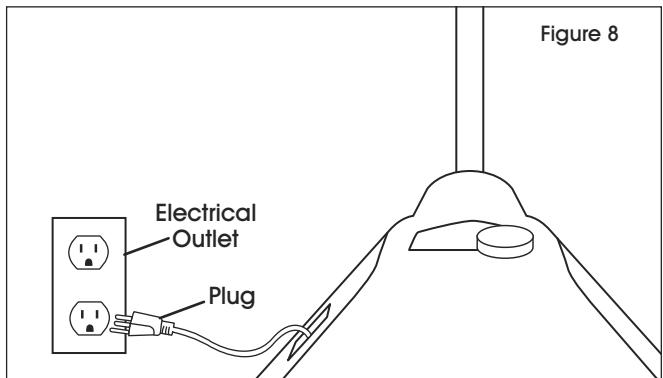

Figure 8
4. Plug truck into electrical outlet to charge battery. (See Figure 8)